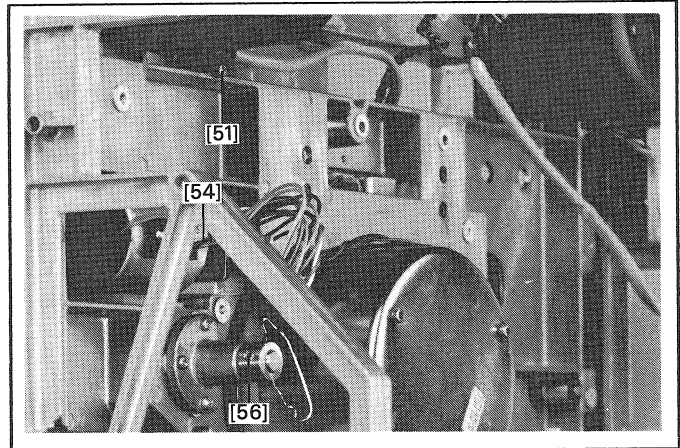

Fig. 24
- Unfasten 1 screw of the motor cable holder [51] (Fig. 24).